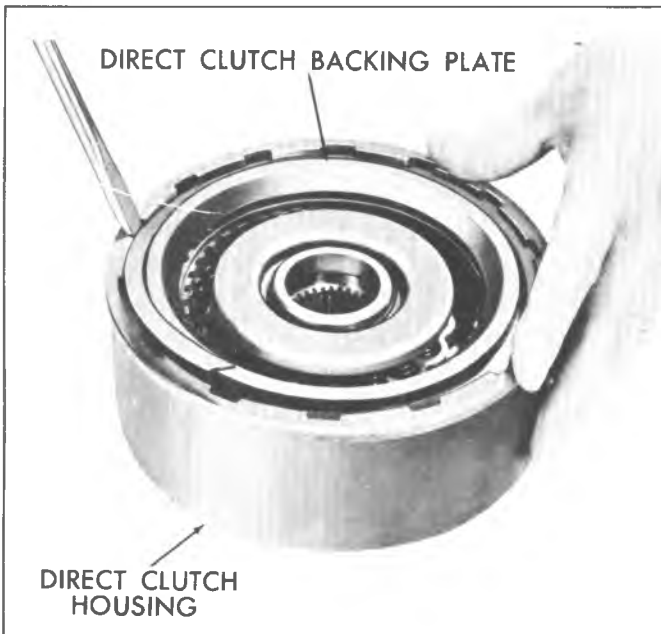

Fig. 80T--Removing Direct Clutch Backing Plate Snap Ring
3. Turn unit over and remove backing plate to direct clutch housing snap ring (fig. 80T).